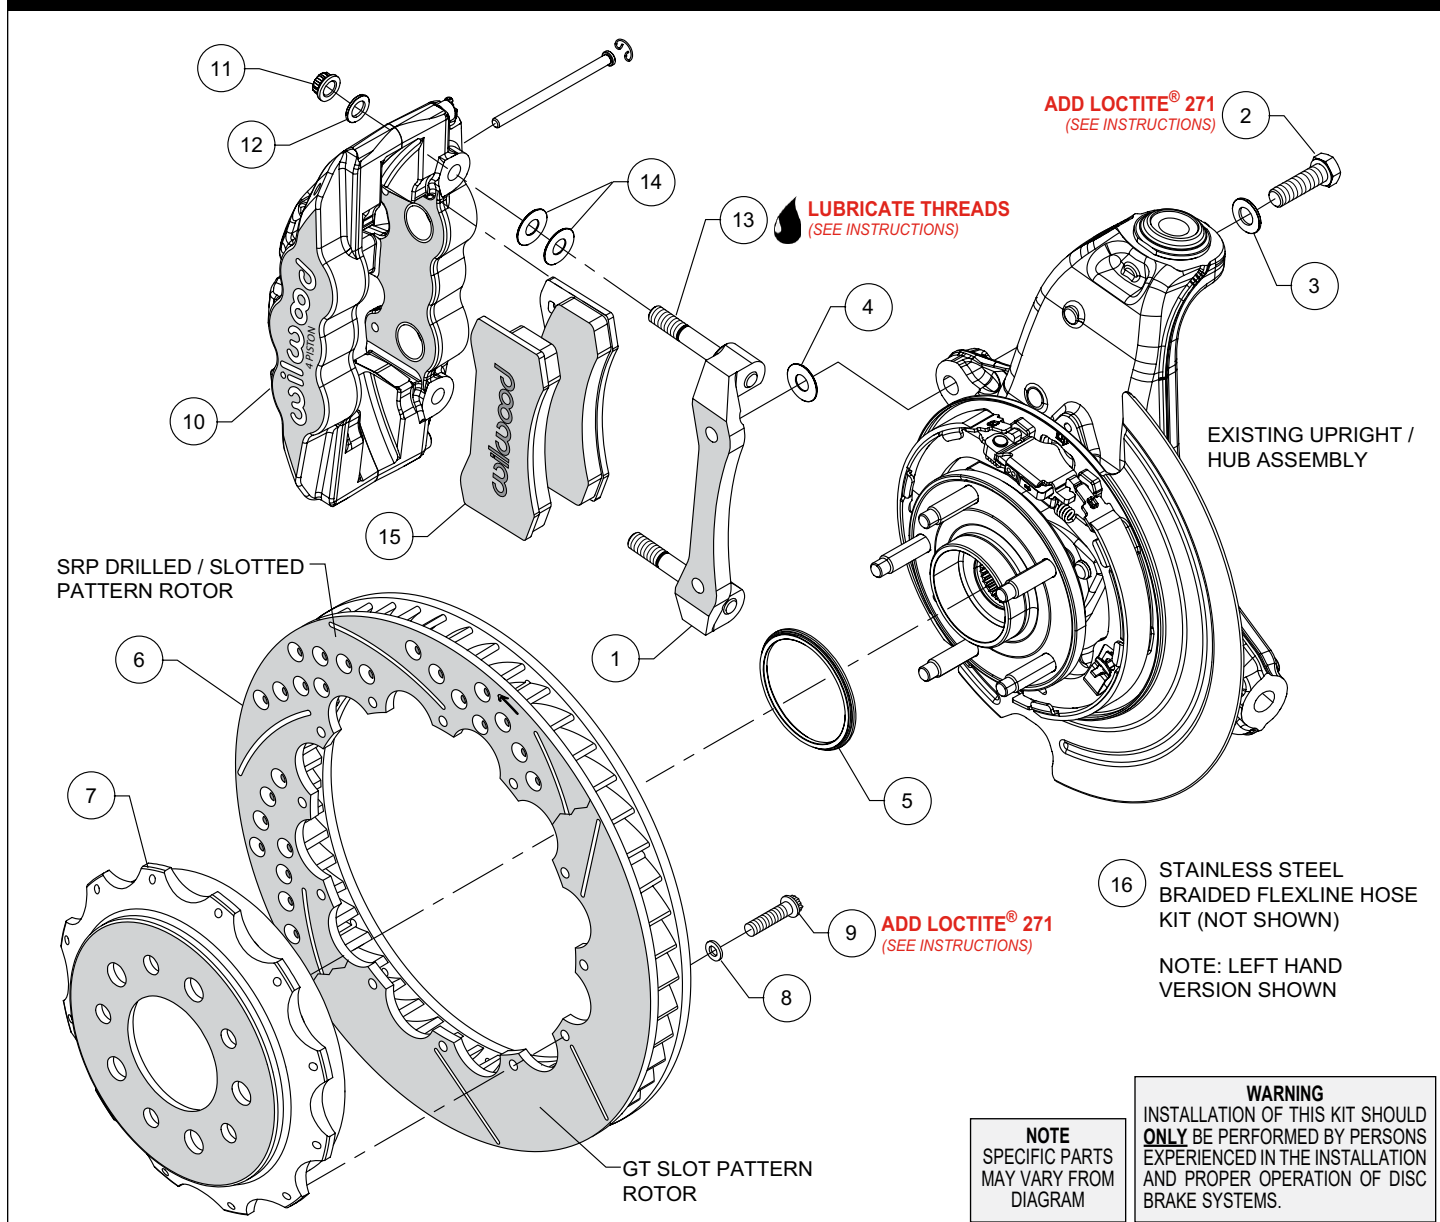
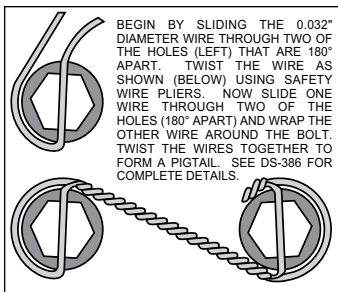

Figure 1. Typical Installation Configuration
Figure 3.
NOTE: Numbers in parenthesis refer to the parts list and Figure 1 on the preceding pages.
- The caliper mount bracket (1) should initially be installed with clean, dry threads on the mounting bolts. Orient the bracket as shown in Figure 1, and Photo 1, and install using bolts (2) and washers (3). Initially place one .033" thick shim (4) on each bolt between the bracket and upright, Figure 1. Temporarily tighten the mounting bolts. **NOTE:** *The bracket must fit squarely against the mount bosses on the upright.* Inspect for interference from casting irregularities, machining ridges, burrs, etc. Later, after the caliper alignment has been checked, the mount bolts will be secured using red *Loctite*® 271.
- Orient the rotor (6) and the hat (7) as shown in Figure 1 and Photo 2. Attach rotor to hat using bolts (9) and washers (8). Using an alternating sequence, apply red *Loctite*® 271 to the threads, and torque to 140 in-lbs. For an added measure of security, the bolts may be safety wired using standard 0.032 inch diameter stainless steel safety wire as shown in Figure 3. Please refer to Wilwood's data sheet DS-386 (available at www.wilwood.com/Pdf/DataSheets/ds386.pdf) for complete safety wire installation instructions.
•**NOTE:** This kit contains distinct right and left hand calipers. The calipers must be mounted with the bleed screws pointing upward. Lubricate the caliper mounting studs (13) with lightweight oil. Initially place two .030" thick shims (14) on each stud as shown in Figure 1 and Photo 5. Mount the caliper (10) onto the bracket (1) using lock nuts (11) and washers (12), Figure 1. Temporarily tighten the lock nuts and view the rotor through the top opening of the caliper. The rotor should be centered in the caliper, Photo 6. If not, adjust by adding or subtracting shims (4) between the bracket and the upright. Always use the same amount of shims on each of the two mounting bolts. Once the caliper alignment is correct, remove the bracket mounting bolts (2) one at a time, apply red *Loctite*® 271 to the threads, and torque to 60 ft-lb.
•Remove the two pad retaining pins from the caliper (10) by carefully popping out the pin retaining clips and sliding out the pins. Insert the brake pads (15) into the caliper from the bottom, Figure 1 and Photo 7. With the friction material facing the rotor, secure the brake pads in place with the pad retaining pins and clips, Photo 8. Reinstall the caliper onto the caliper mounting bracket and temporarily tighten the lock nuts. Check that the top of the brake pad is flush with the outside diameter of the rotor, Photo 9. If not, adjust by adding or subtracting shims (14) between the caliper and the bracket. After the caliper pad height is set, torque the caliper lock nuts (11) to 47 ft-lb.